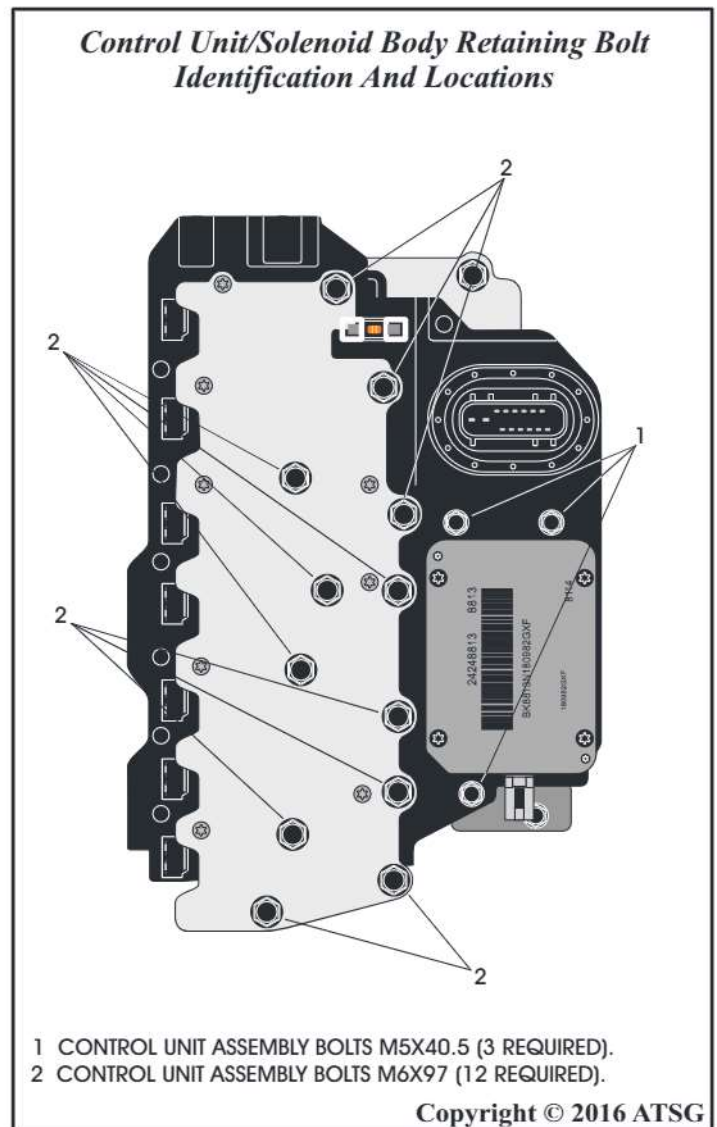

Figure 53
18. Remove only the control unit assembly bolts shown in Figure 53.